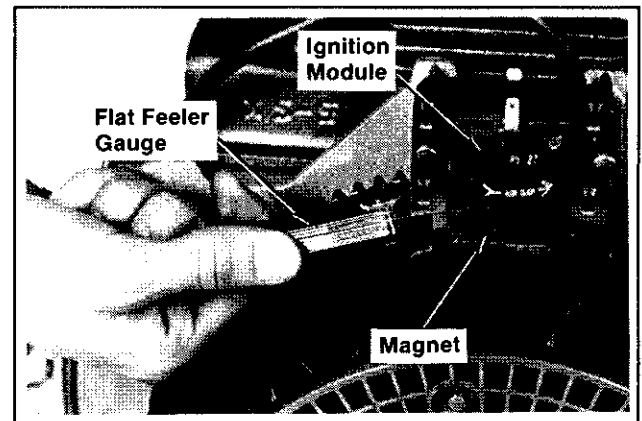

Figure 8-5. Setting Magnet-To-Module Air Gap.
2. Insert a 0.018" flat feeler gauge (or shim stock) between the magnet and module. Refer to Figure 8-5.